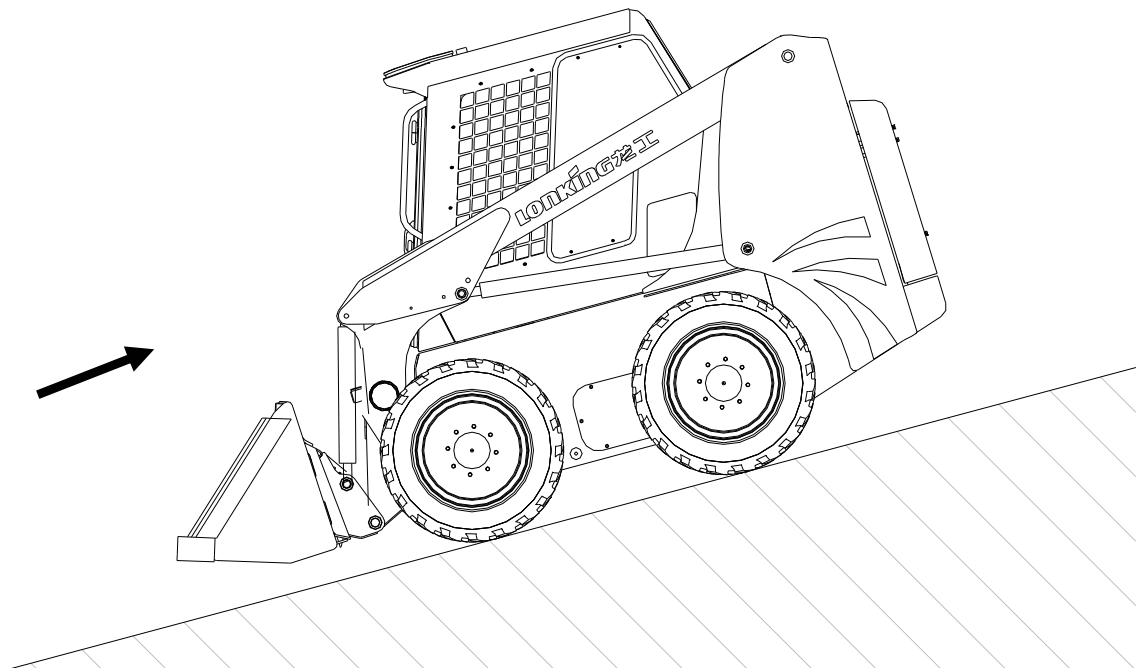

Figure 25 UPGRADE WITH BUCKET EMPTY
1. If the bucket is empty, should be positive downgrading the slope and reverse upgrading the slope.(as shown in the figure 25,26)